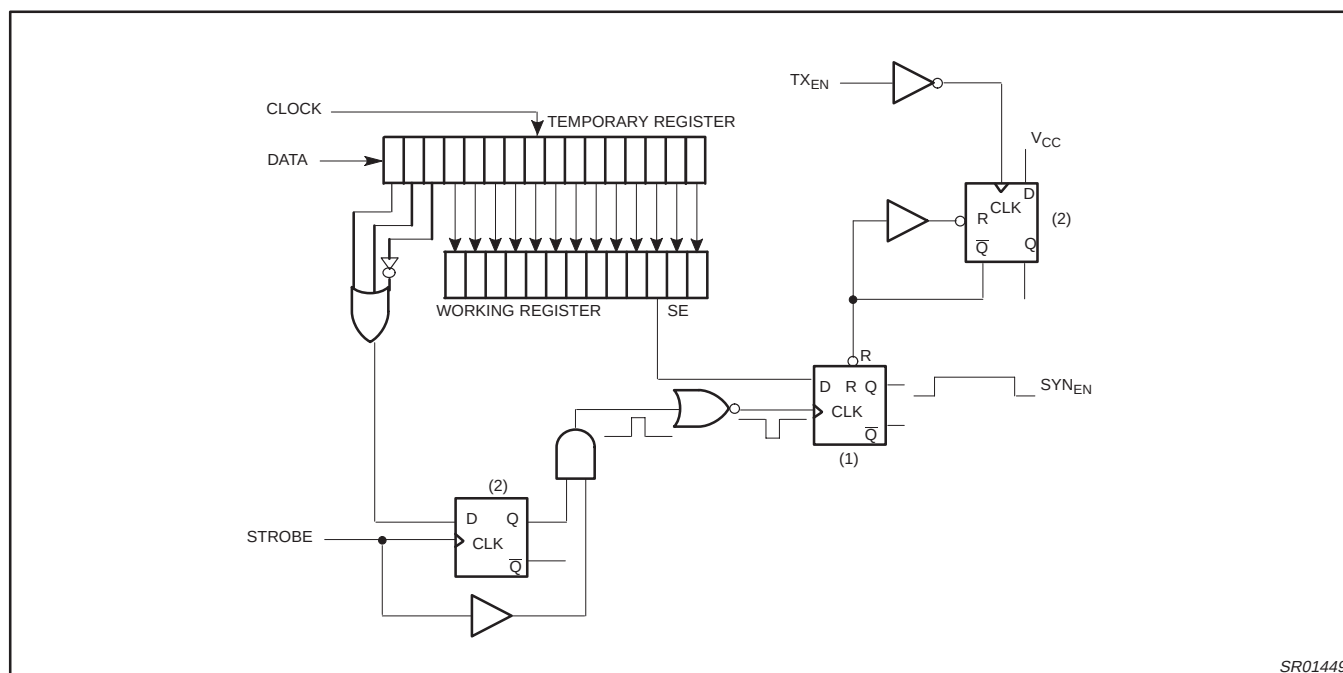

Figure 6. Transmit Offset Synthesizer Reset Circuit
In Figure 6, the falling edge of the strobe and address, inverted, toggles the Q output of flip-flop (1) to a '1' state, enabling the phase detector, VCO, divide by M, TX_{IF} buffer and SSB up-converter. Approximately 80µs after the synthesizer is locked, the TX_{EN} signal (enabled = 1) turns on the modulator and variable gain amplifier. The rising edge of TX_{EN} has no effect on SYN_{EN}, however, the falling (rising inverted) edge toggles the $\bar{Q}$ output of D flip-flop (2) to a '0' state. This disables the synthesizer, modulator and variable gain amplifier. To insure that slow edges on TX_{EN} do not cause improper operation, the TX_{EN} is a Schmitt trigger design.